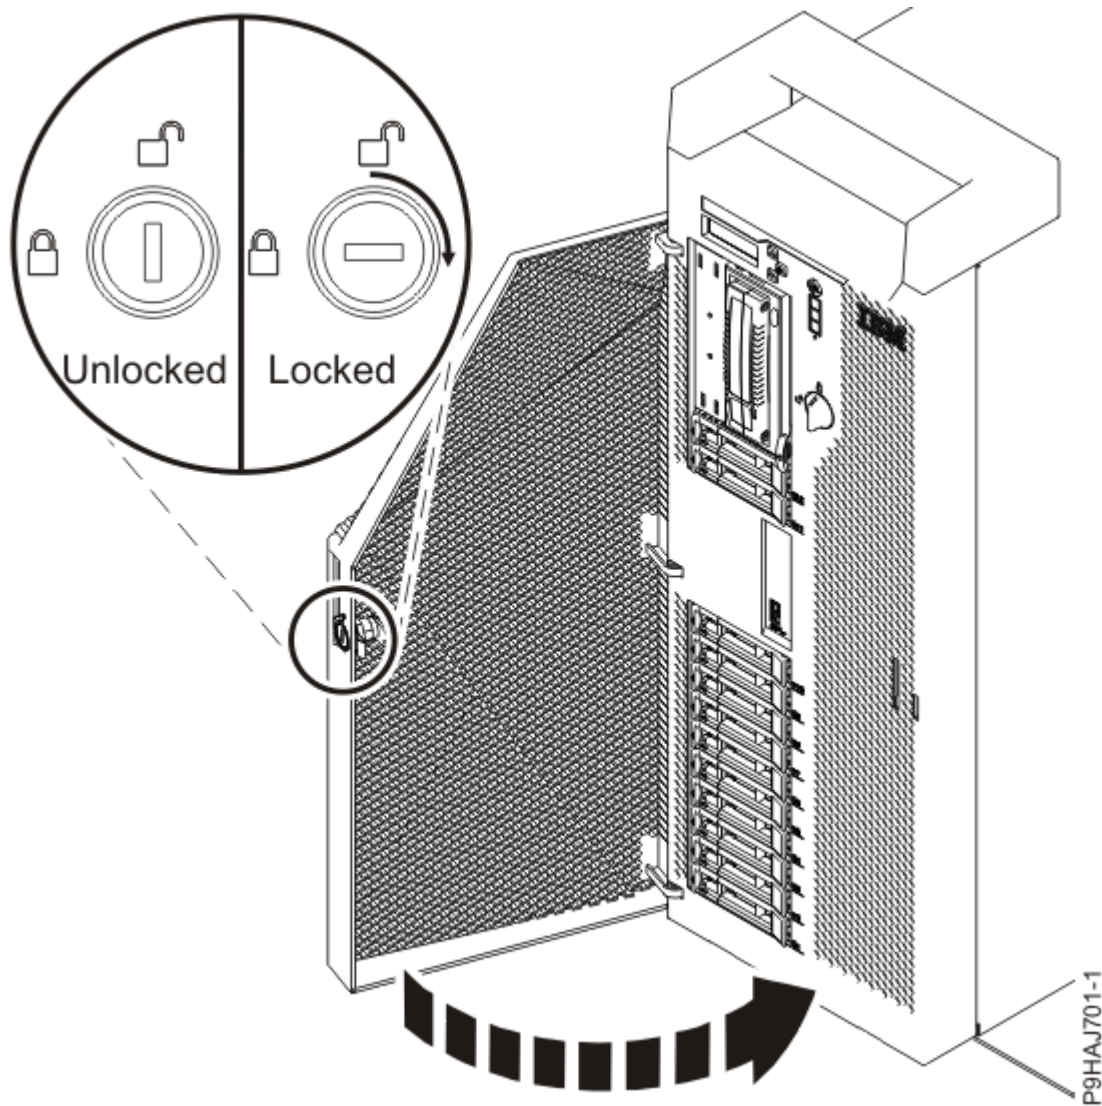

Figure 19. Locking the front door
14. For a stand-alone system, close the front door. Insert the front door key into the lock as shown in Figure 19 on page 23. Twist the key to the right (clockwise) to lock the door. Horizontal is locked; vertical is unlocked.